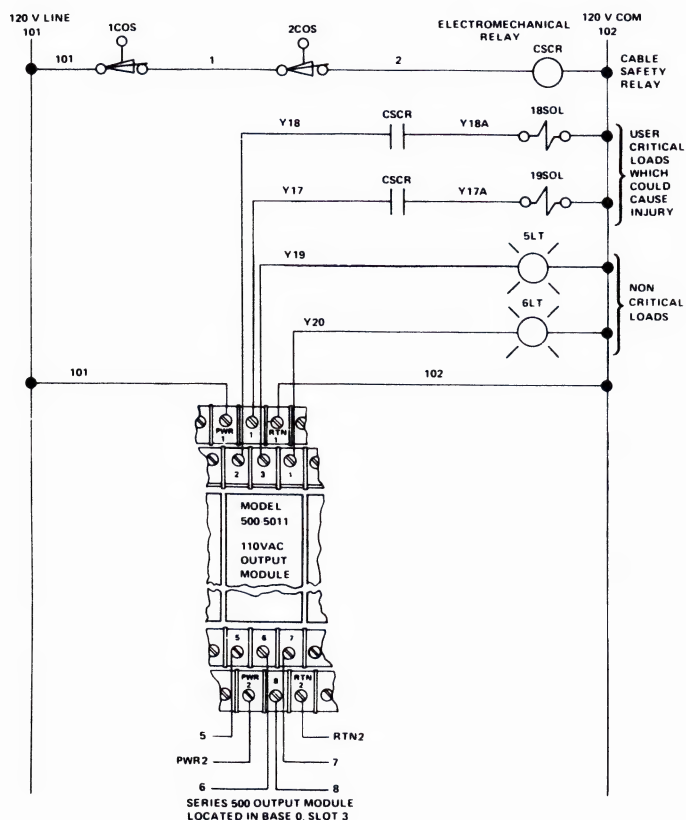

Figure 7-1 Typical Operator Safety Switch Shutoff
- A means of disconnecting power from the output loads when the machine is not operating or when it is necessary for the operator to reach into the machine should be provided. Power must be removed by a non-semiconductor switch or hardwired relay contact placed to interrupt power to the output load. It is not sufficient to rely solely on the P/C system for this function (see Figure 7-1).